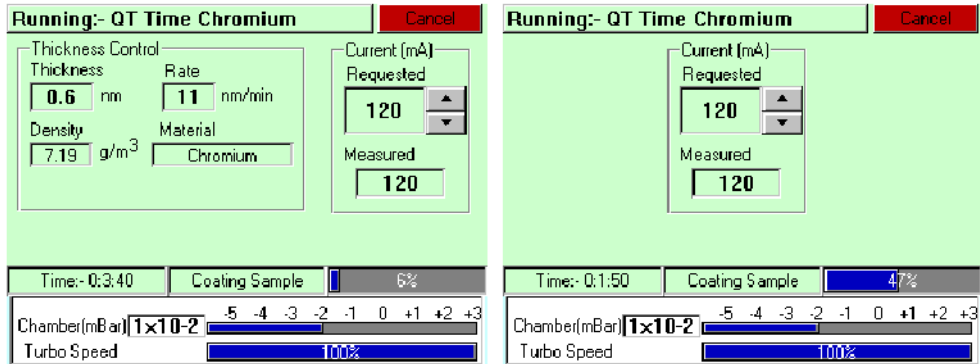

Figure 3-3. A run in progress: with FTM installed (left) and without FTM (right).
5. Tap on the Run Profile button. The EMS150T starts pumping the sample chamber. The progress of the run is shown through a series of on-screen messages (Figure 3-3).